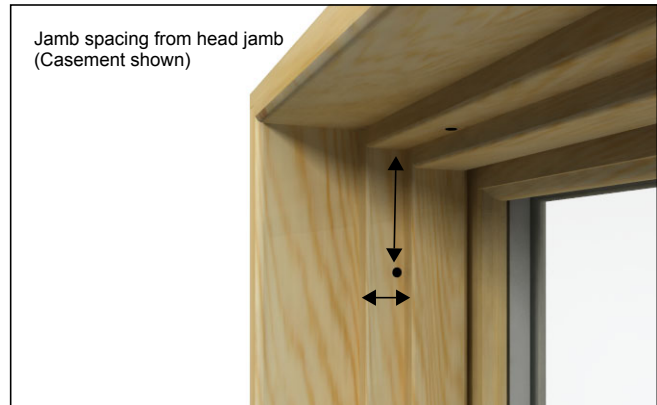

Figure 1
1. Mark hole location on wood jamb/head jamb stops using spacing chart (see chart). From the interior edge of jamb/head jamb stop measure 1/2"(13) and mark intersection point of previous dimension. Carefully drill hole at intersection, mark through jamb/header stop *only* using 3/8"(10) drill bit. Center
3/16"(5) drill bit in 3/8"(10) hole and carefully drill through jamb frame. See figure 1, figure 2, and figure 3.